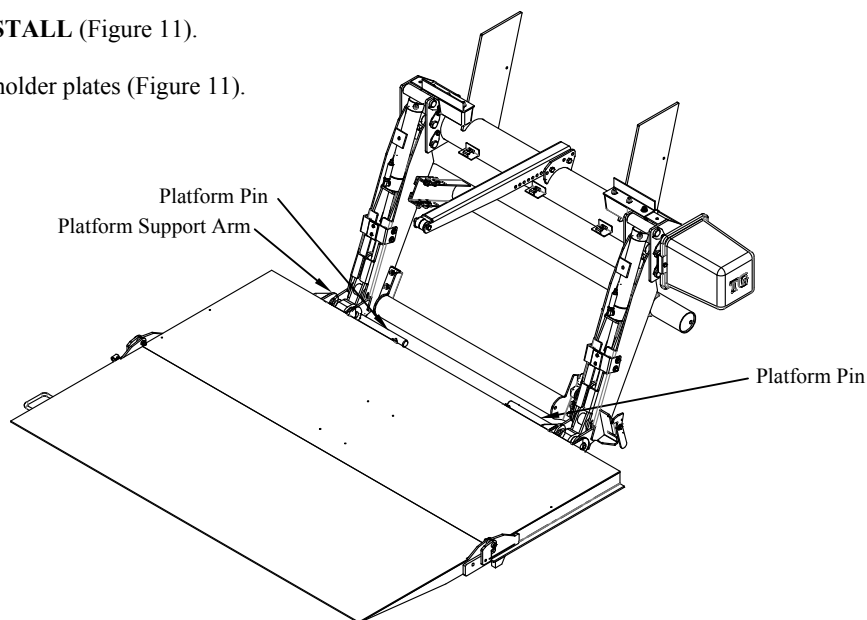

Figure 9: Installing Platform.
1. **POSITION** platform support arms in line with platform pivot plates (Figure 9).
2. **INSERT** new platform pins through platform support arms and platform pivot plates from center outward (Figure 9).